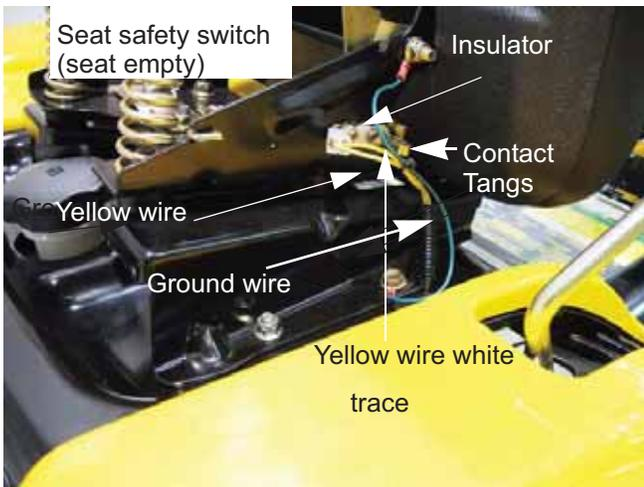

Figure 7.10
6. The **Seat Safety Switch** consists of a pair of simple metal contact tangs attached to the seat mounting bracket. See Figure 7.10.
**NOTE:** The rubber mounts for the seat bracket insulates it from ground. There is a ground wire that provides a ground for the seat bracket. A failure in that wire will prevent the seat switch from working. See Figure 7.10.